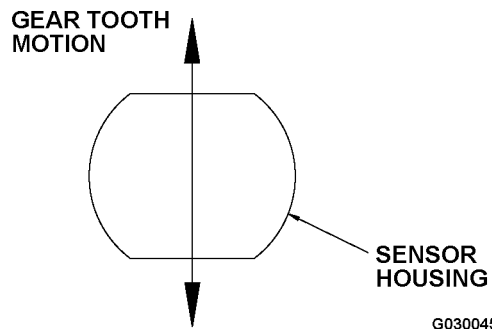

FIGURE 3-9. SPEED SENSOR ADJUSTMENT
- b. Turn in the sensor until the tip contacts the gear tooth. Then turn out the sensor until the flats of the sensor housing are perpendicular to the gear tooth motion (see Figure 3-9). Clearance between the sensor tip and gear tooth must be 2.0 ± 0.1 mm (0.079 ± 0.004 in.).